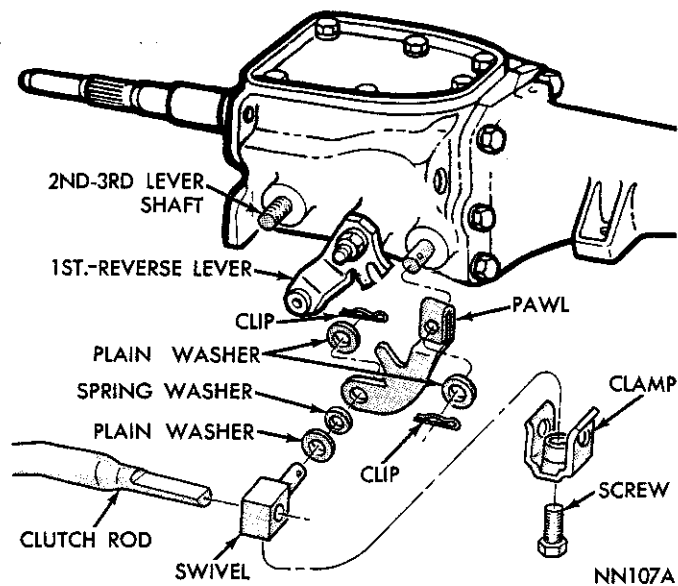

Fig. 5—Gearshift Interlock (6 cyl. & A903 Trans. Only)
(2) On 6 cyl. models with A-903 transmission disconnect gearshift interlock rod by loosening rod swivel clamp screw (Fig. 5).
Gearshift Interlock (Fig. 5) (6 Cyl. only)